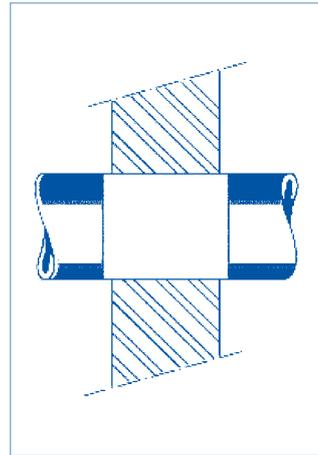

Figure 32: Casting and sand-coated GRP pipe into the concrete wall
3. Casting and sand-coated GRP pipe into the wall, (Figure 32).